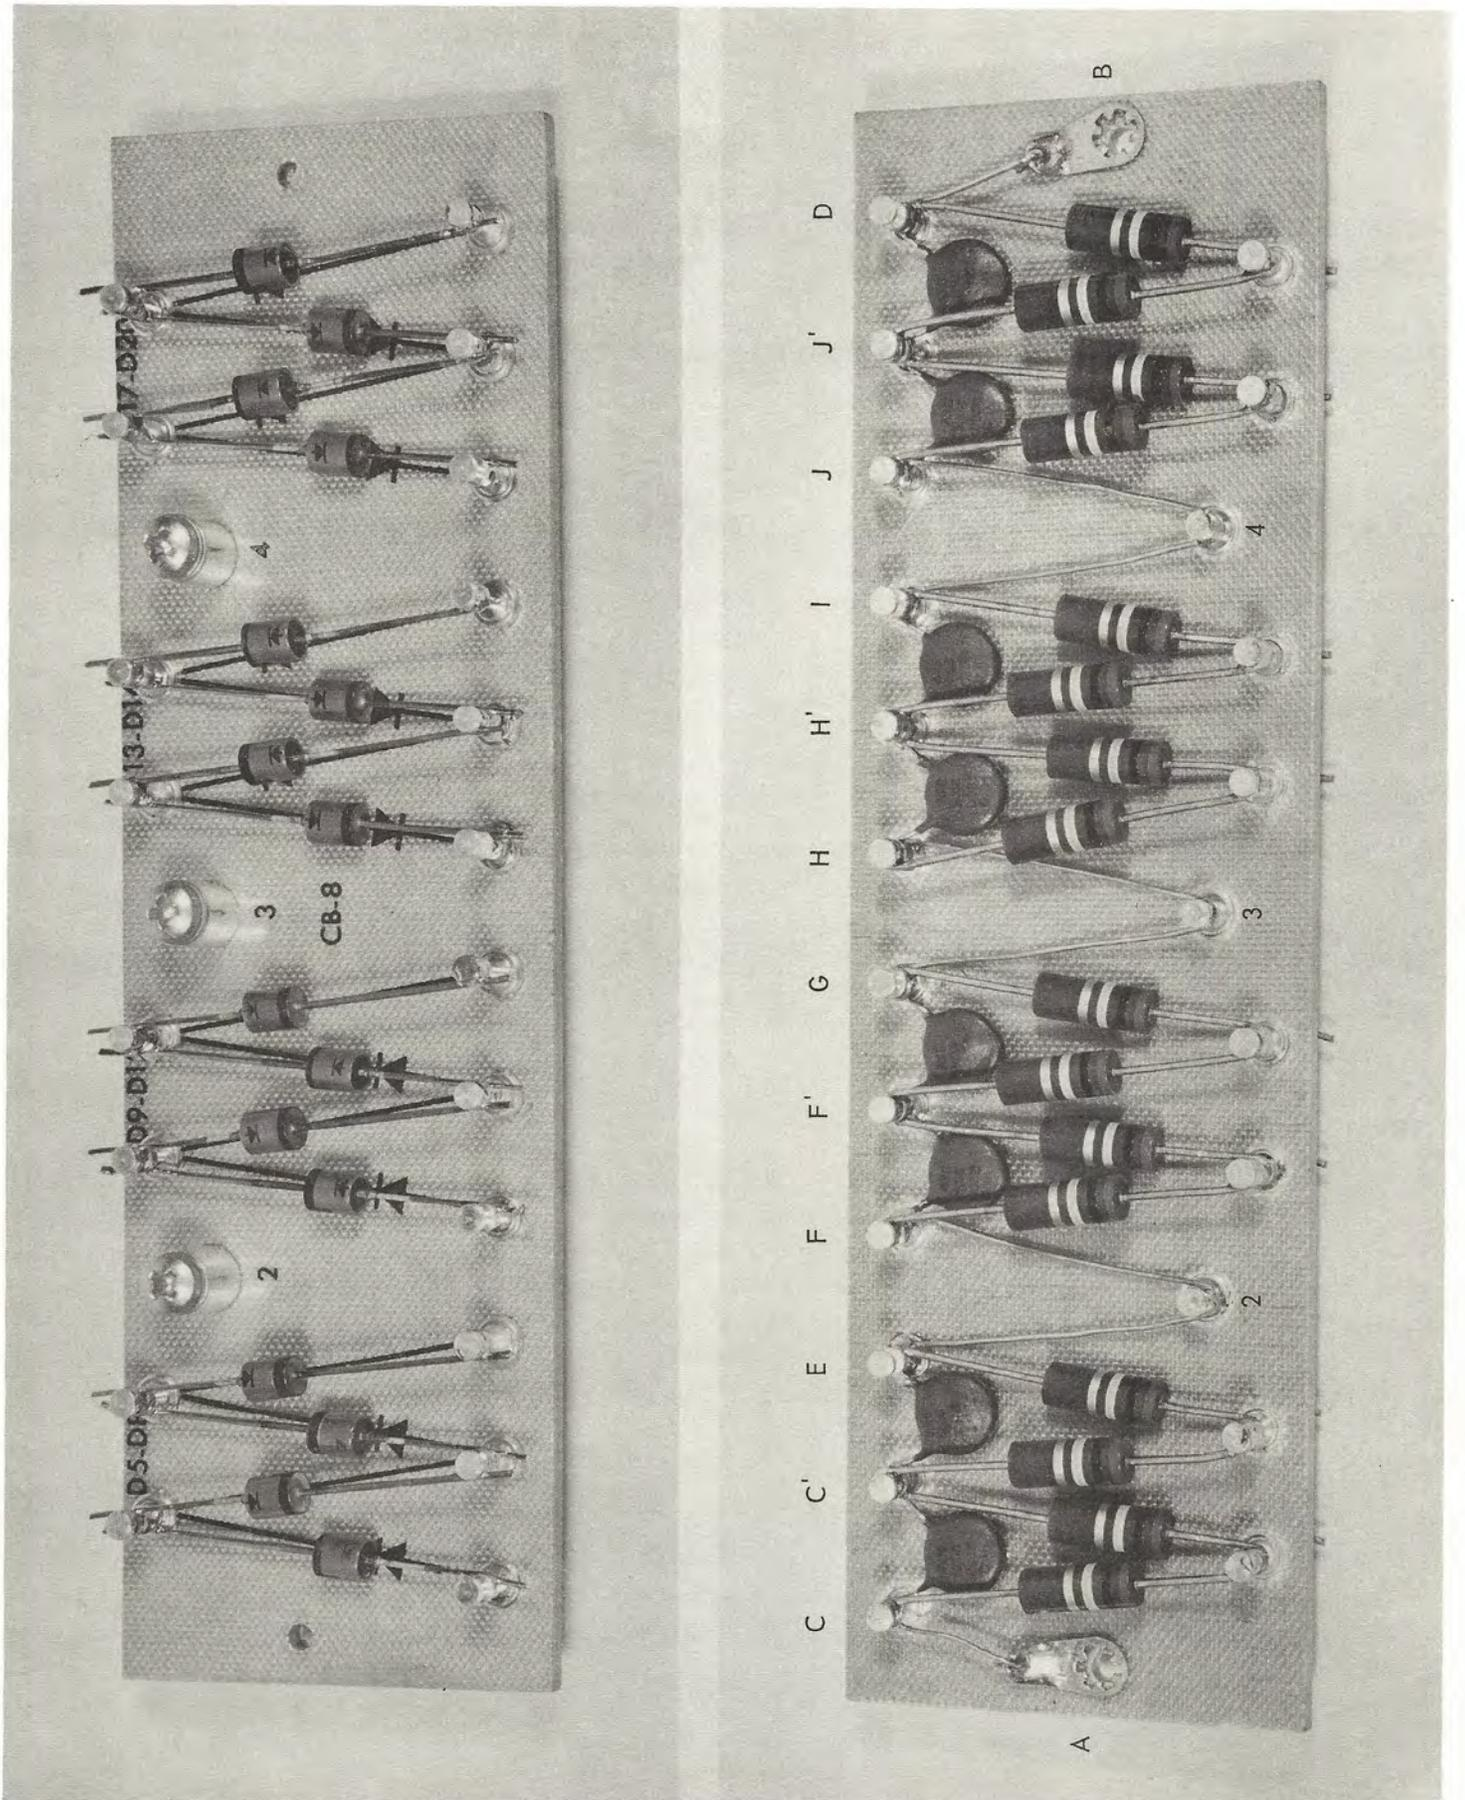

FIGURE CB-8
Refer to Figure CB-8
- ( ✓ ) 7. Install the 16 100k 1w resistors. Stagger as shown on Figure CB-8. Use the top of the terminal barrel to mount the resistors. After the resistors are mounted, solder each terminal on the bottom of the board carefully.